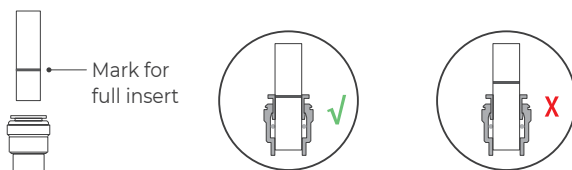

Figure 1
- There is an existing mark (Figure 1) at the end of the tubing for you to confirm if the tubing is fully inserted into the fitting.